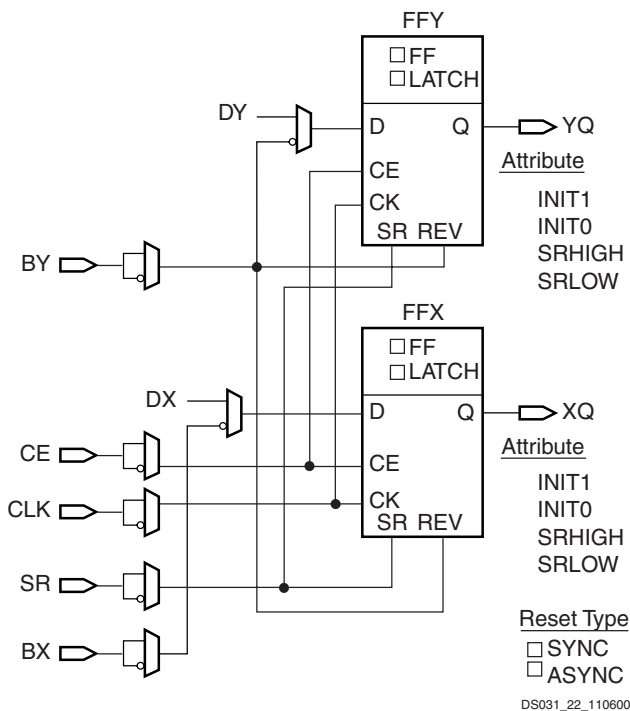

Figure 18: Register/Latch Configuration in a Slice
In addition to clock (CK) and clock enable (CE) signals, each slice has set and reset signals (SR and BY slice inputs). SR forces the storage element into the state specified by the attribute SRHIGH or SRLOW. SRHIGH forces a logic "1" when SR is asserted. SRLOW forces a logic "0". When SR is used, a second input (BY) forces the storage element into the opposite state. The reset condition is predominant over the set condition (Figure 18, page 21).